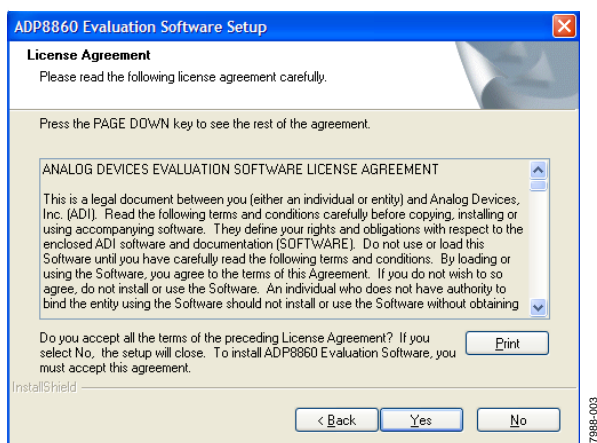

Figure 3. License Agreement
2. Click **Yes** to accept the license agreement (see Figure 3).